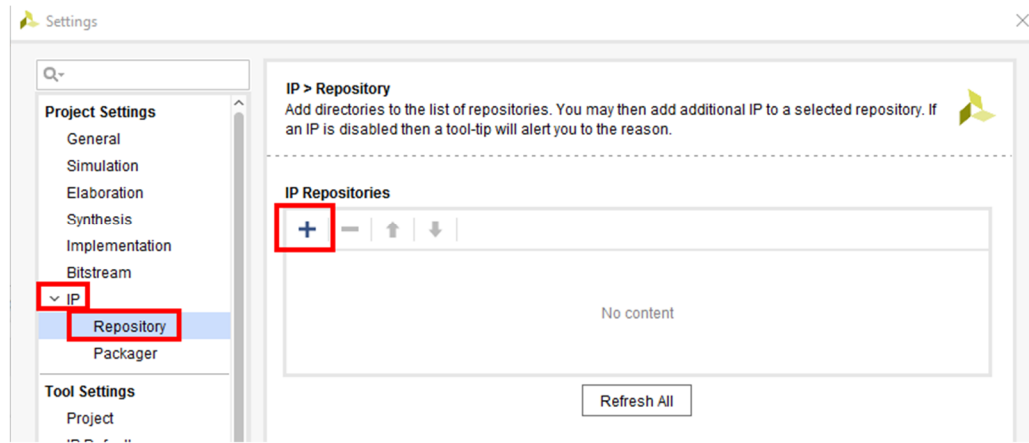

Figure 13: Adding an IP repository to the project
2. In the **Flow Navigator** pane, select **Settings → IP → Repository**. Click on the + button and select the folder that you have the *led_ip* stored and click **Select**. You should see a dialog box appear that shows the new **IP** added to the repository. Click **OK** twice. See figure 13 below as a reference.